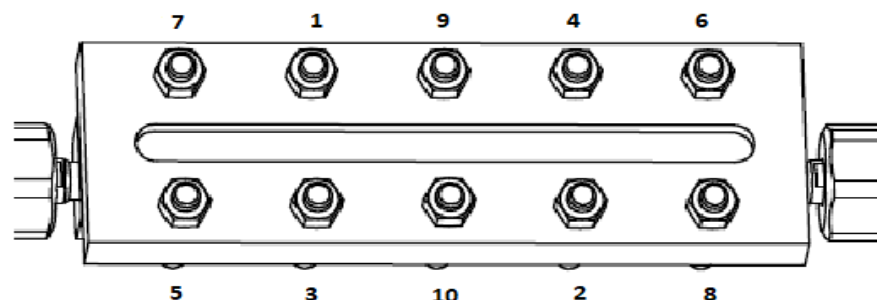

Figure 10. Screw tightening sequence
- Clean the frame elements, apply the seals and glass and reassemble the frame. The screws should be tightened alternately, with sensitivity and even force. Screw tightening torque max 30 Nm. For frames 705.2, 705.3, 705.4, 705.5, 703, tightening the nuts is shown in the drawing below (Figure 10).